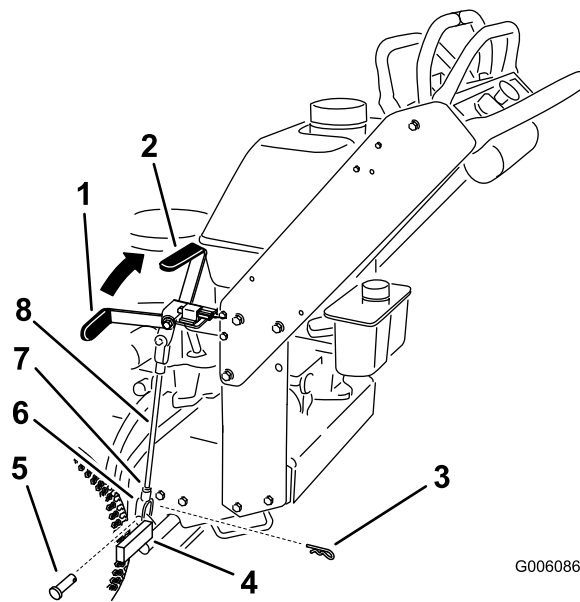

Figure 44
Note: When the brake is engaged, the brake handle should be in the 1 o'clock position (Figure 44).
5. Loosen the top and bottom jam nuts (Figure 44).
6. To adjust the brake, remove the hair pin cotter and clevis pin from the lower brake lever (Figure 44).
7. Rotate the brake rod in the yokes. To tighten the brake, lengthen the rod between the yokes. To loosen the brake, shorten the rod between the yokes (Figure 44).
8. Secure the yoke to lower brake lever with the hair pin cotter and clevis pin (Figure 44).
9. Tighten the top and bottom jam nuts (Figure 44).